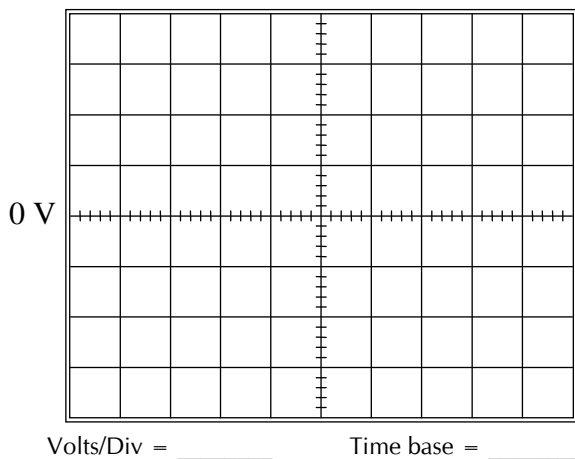

Fig. 3.9 Waveform v_0 (measured)
3. Using the oscilloscope with the coupling switch in the DC position obtain the voltage v_0 and sketch the waveform on Fig. 3.9. Before viewing v_0 be sure to set the $v_0 = 0$ V line using the GND position of the coupling switch. Use the same sensitivities as in Step 2.
5. What is the most noticeable difference between the waveform of Fig 3.9 and that obtained in Step 11? Why did the difference occur?
6. Calculate the DC level of the waveform of Fig. 3.9 using the following equation: